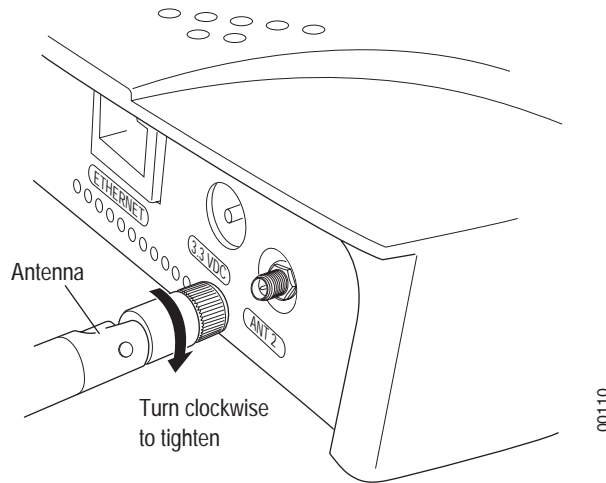

Figure 21: AP200 Antenna Connection
If the AP200 does not have external antennas, attach the antennas to the connectors on the AP200 (see Figure 21). Rotate the knurled ring at the base of the antenna clockwise to attach the antenna. The ring should be finger-tight.
2. For each antenna, loosen the knurled ring at the base of the antenna (see Figure 21), point the antenna straight up, then retighten the ring.
8. For external antennas, loosen the knurled ring at the base of each antenna (see Figure 21), point the antenna straight up, then retighten the ring.
9. For each antenna, loosen the knurled ring at the base of the antenna (see Figure 21), point the antenna straight down, then retighten the ring.
11. For each antenna, loosen the knurled ring at the base of the antenna (see Figure 21), point the antenna down, then retighten the ring.